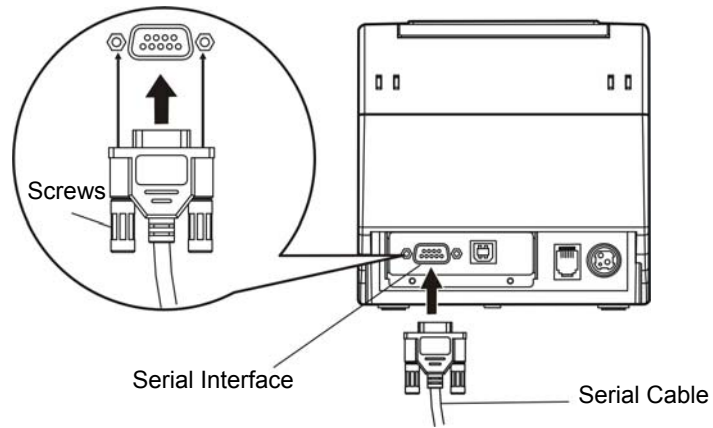

Fig 2-4 Connecting the serial interface cable
1. Make sure the host and the printer are both turned off, connect the serial interface cable to the connector on the rear panel of the printer. Tighten the connector screws as shown in Fig 2-4.